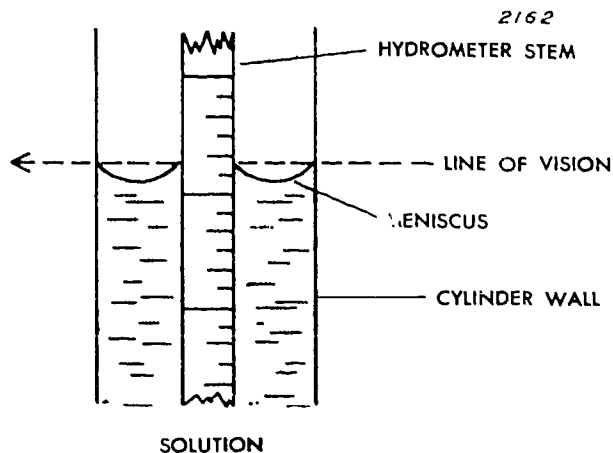

Figure 1-1. Reading a hydrometer correctly.
Most of the time you will use a hydrometer to determine specific gravity. The hydrometer consists of a float with a cylindrical stem and a bulb that is weighted at the bottom. The hydrometer is usually made of glass. The weight of the bottom of the hydrometer makes the hydrometer sink to a specific depth. The stem has a scale on its inside so that the readings can be taken at the surface of the liquid in which the hydrometer floats. (Readings must be taken across the top of the meniscus formed on the surface of the solution, as illustrated in figure 1-1.) Some hydrometers have a thermometer in the stem to indicate the temperature of the liquid at the time the reading is taken.
- (1) Fill the hydrometer cylinder with sample solution.
- (2) Adjust temperature of the sample to read 70°F . $\pm 1^\circ$.
- (3) Dry the hydrometer thoroughly and carefully lower it into the sample, being sure that the stem of the hydrometer is dry, to within one-eighth inch of the surface of the liquid.
- (4) With the hydrometer cylinder on a level support, read the hydrometer at the top of the meniscus as seen along the side of the hydrometer stem. (Refer back to fig. 1-1.)